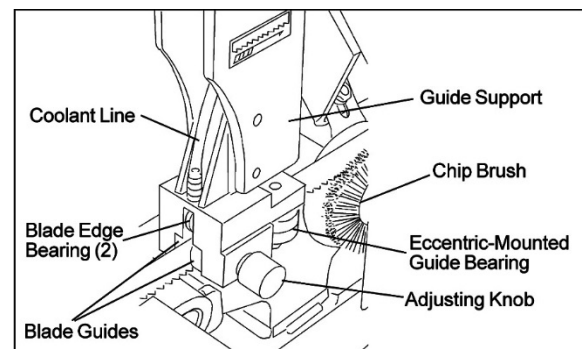

Figure 18: Carbide blade guides and guide bearings.
Refer to Figure 18.
- Remove cap screw from bearing being replaced. See Figure 18. Separate bushing and cap screw from the bearing. Discard bearing.